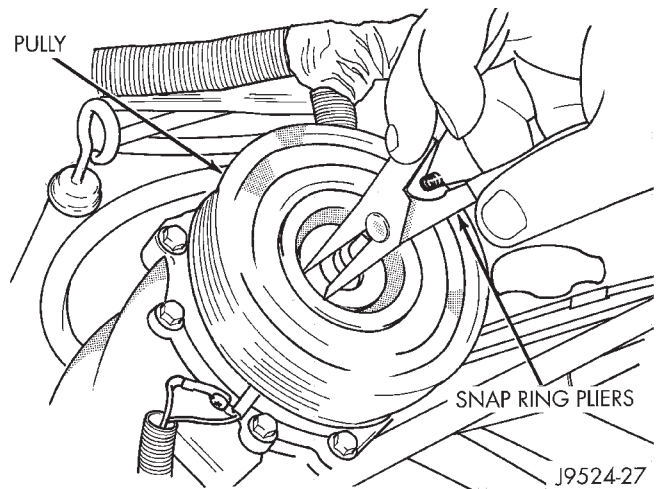

Fig. 6 External Snap Ring Removal
(5) Remove key and clutch shims.
(6) Remove the external front housing snap ring with snap ring pliers (Fig. 6).